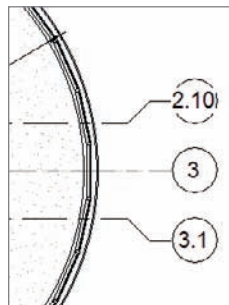

FIGURE 8.13 The cleaned-up grid bubbles
3. When you pick this break line, it adds an elbow to your grid line, as shown in Figure 8.13.
4. Repeat the procedure for grid 3.1. Your grids should now look like Figure 8.13.